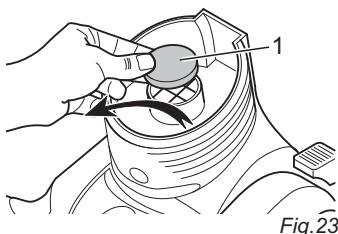

Fig. 23
3. Remove the protective motor filter (Fig. 23/1).